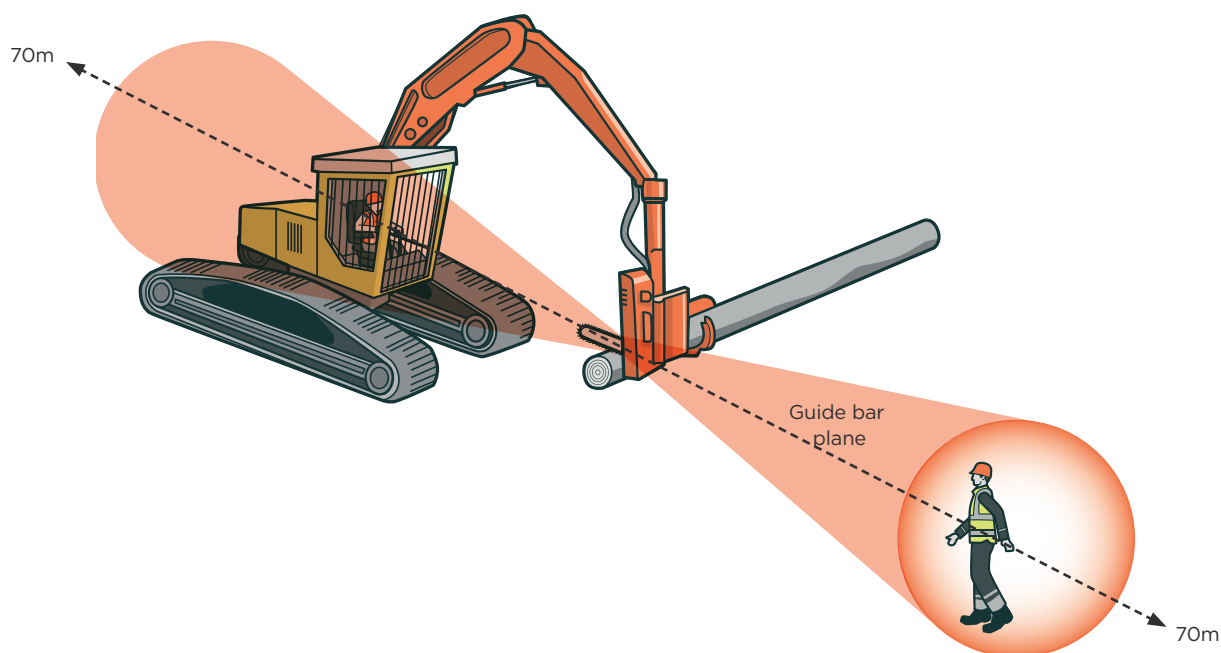

FIGURE 19: Minimum 70m exclusion zone to protect against chain shot injury³
20.3.8 Make sure workers are at least 70m away from the cutting direction of the saw chain. This is due to the risk of chain shot from the chain breaking (Figure 19).